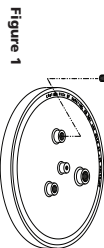

Figure 1
1. Assemble the regulator to the paint tank lid as shown in Figure 1: